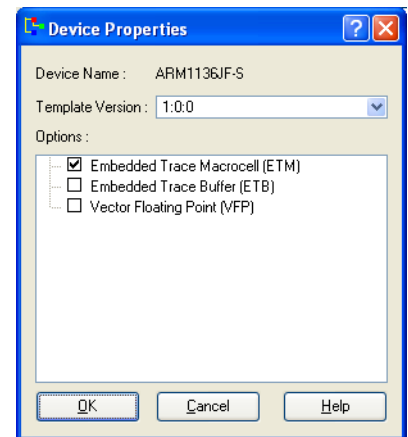

Figure B-2 Device Properties dialog box
8. Select **Properties...** from the context menu to open the Device Properties dialog box. Figure B-2 shows an example: